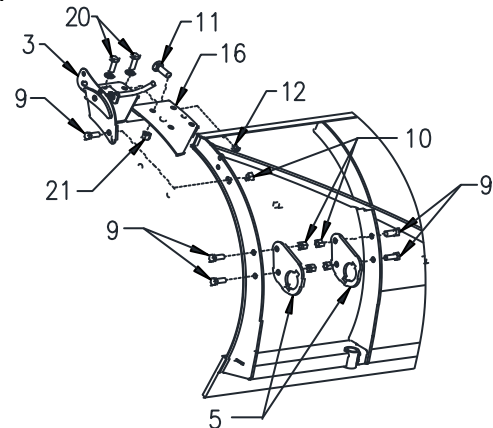

Figure 3. Mount Bracket Locations
- 6) Bolt Plow Rib Bracket (5) to inside of Outside Plow Rib. See Figure 3. Do not tighten fasteners.